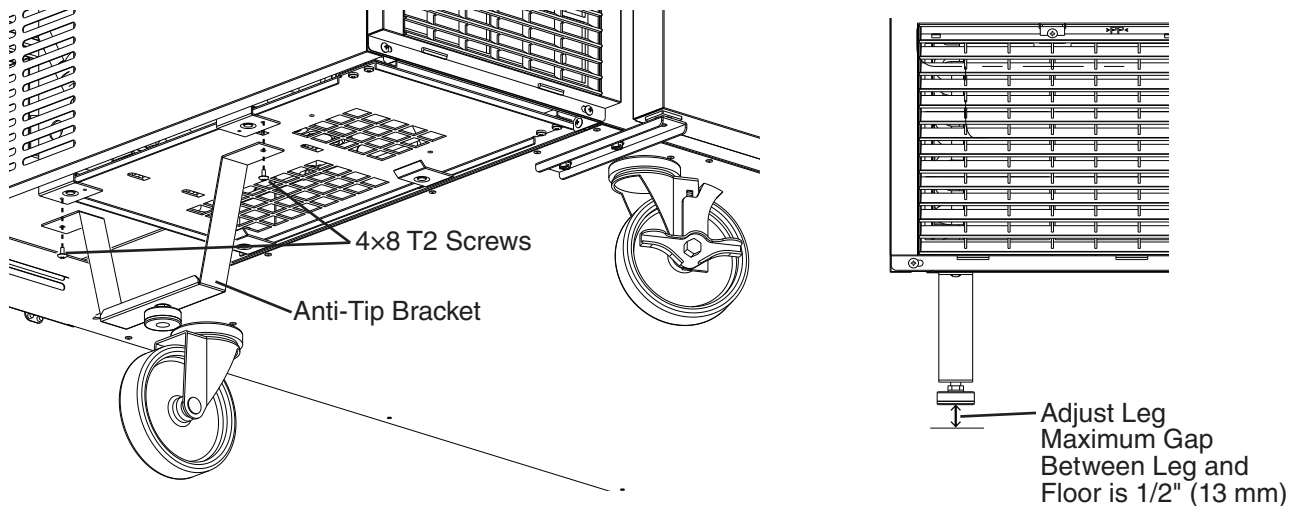

Fig. 2
- 1) Attach the anti-tip bracket to the bottom of the appliance with the two 4×8 T2 screws provided. See Fig. 2.